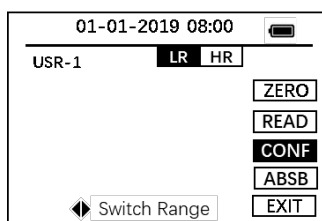

Figure 10.
4. With **CONF** highlighted, press the **OK** key (Figure 10).